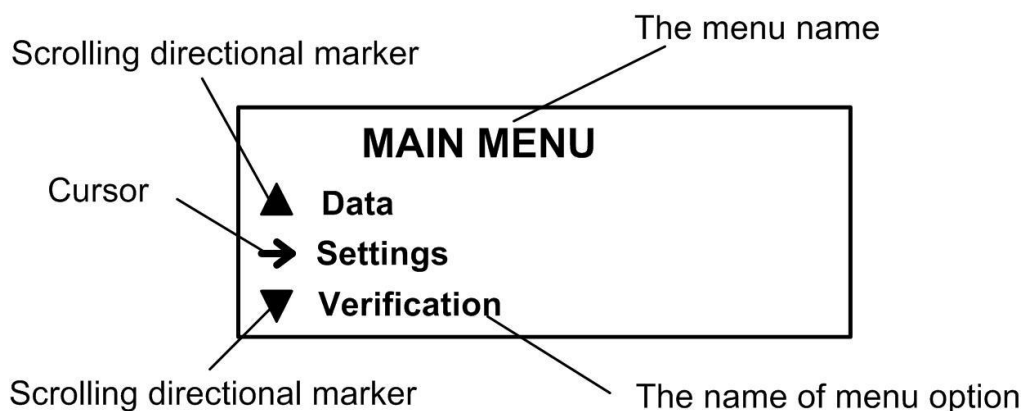

Fig. 1. Main menu
1.1.1. The contents and structure of the main menu (Fig.1) is constant. Number and contents of submenus and windows as well as settings available for modification depend on the Level gauge's operating mode.
1.1.3. The display shows the menu (window) name which is fixed in the first row of the LCD indicator, and menu items (options) which can move up or down (see Fig.1).
- 1.1.5. Number of rows (menu items, list options) indicated on the display cannot exceed 3 at a time. Scroll direction indicators may therefore be shown at the beginning of the first and the last rows of menu items (or options). These indicators are triangles (see Fig.1) with vertexes showing the directions where the cursor can navigate through rows (menu items, and settings).